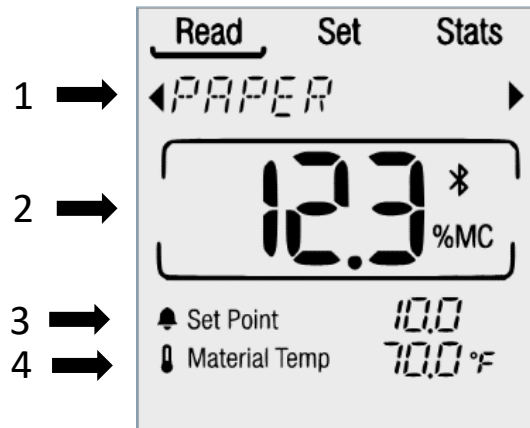

Figure 2: Read screen components
Info: The live reading area displays the corrected moisture value of the material. The reading is corrected using the Material Type (1), and Material Temperature (4) (see Figure 2 above).